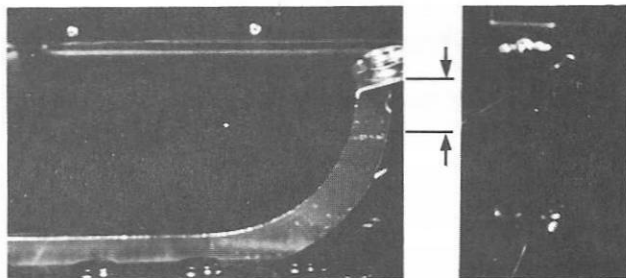

Fig. 42 Travel 1 1/2 Inches (38 mm)
- Check the the brake pedal travel and adjust if necessary. It should be 1 1/2 inch (Figure 42).
1. Position a ruler next to the brake pedal (Figure 42).
3. Adjust the screw until the pedal travel is as indicated (Figure 42).